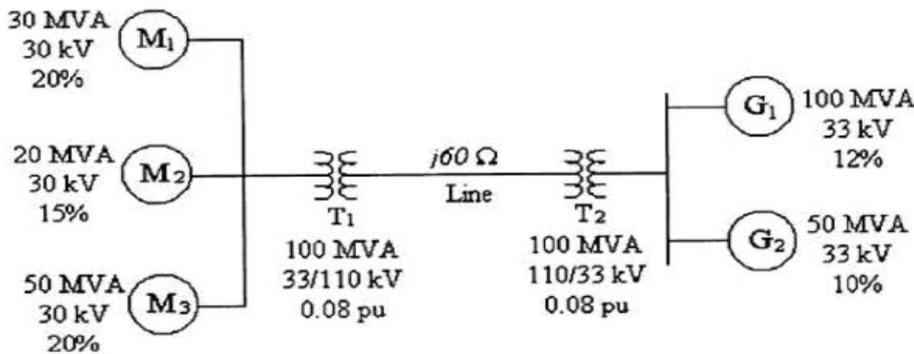

Fig.1
4. (a) Draw a per-unit reactance diagram for the three-phase system shown in Figure 1. Choose a 20 MVA, 66 kV base at the transmission line. 8M